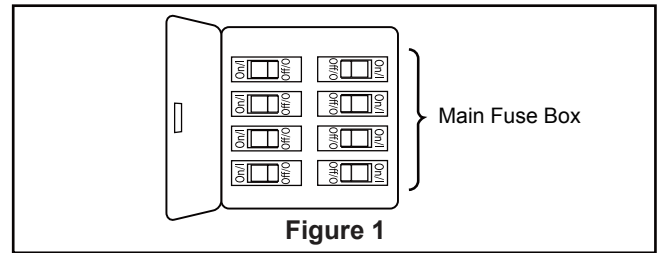
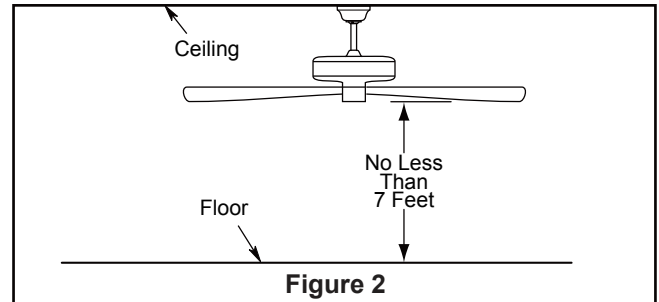

Figure 1
Figure 2
Your new ceiling fan will require a grounded electrical supply line of 120 volts AC, 60 HZ, 15 Amp Circuit. Electrical code requires use of a fan-rated outlet box to support the extra weight and motion associated with a ceiling fan. A fan-rated box will be labeled as such and typically supports up to a 70lb ceiling fan. Fan-Rated Outlet Boxes vary in ratings and design. Ensure the ratings of your ceiling fan outlet box meet the requirements for the ceiling fan being installed. Figure 1, Figure 2 and Figure 3 depicts different structural configurations that may be used for mounting the outlet box.
Low profile box (Figure 1)
Deep box (Figure 2)
1. Remove the hanger ball portion from the downrod/hanger ball assembly by loosening the set screw in the hanger ball until the ball falls freely down the downrod. Remove the pin from the downrod, then remove the hanger ball. Retain the pin and hanger ball for reinstallation in Step 6. (Figure 1)
2. Remove the hairpin clip and clevis pin from the bottom of the downrod. Retain the pin and clip for reinstallation in Step 4. (Figure 2)
To avoid possible fire or shock, be sure electricity is turned off at the main fuse box before hanging. (Figure 1)
The fan must be hung with at least 7' of clearance from floor to blades. (Figure 2)
- 1. To set the code on receiver unit, slide dip switches to the same positions as set on the remote control. (Figure 1)
To avoid possible electrical shock, be sure electricity is turned off at the main fuse box before wiring. (Figure 2)
2. Securely attach and tighten the canopy screw cover over the shoulder screws in the hanger bracket utilizing the key slot twist-lock feature. (Figure 2)
2. Remove one of the three screws in the support bracket at the bottom of the motor assembly and retain the screw for later and slightly loosen the remaining two screws. (Figure 2)
2. Restore electrical power to the outlet box by turning the electricity on at the main fuse box. (Figure 2)